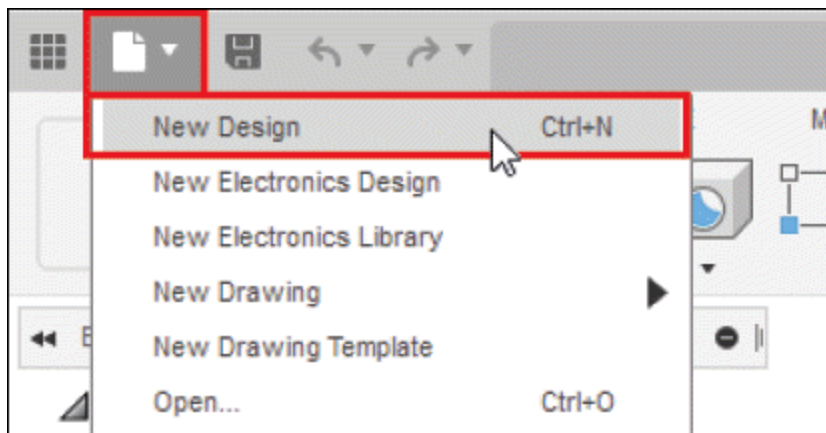

Figure-9. File menu
- Click on the **File** drop-down and select the **New Design** tool as shown in Figure-9. A new document will open.